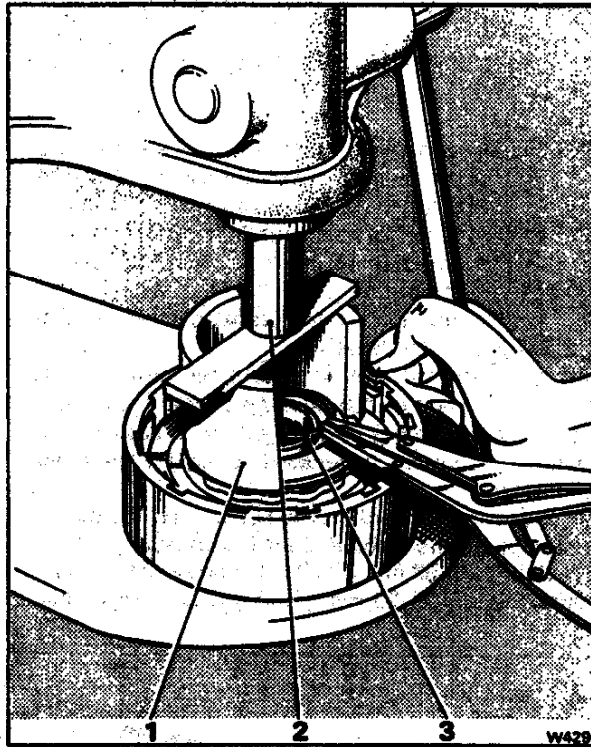

**Fig. T97 Forward clutch assembly - exploded**
2. Remove the forward clutch hub. Remove the thrust washers, one from each side of the hub (see Fig. T97).
Cars produced from 1980 have a modification to the forward clutch. The waved steel clutch plate is superseded by a dished steel plate (see Fig. T97). Therefore, if a replacement is required, note the type of plate removed and the number of flat and composition plates to ensure the correct type is refitted.